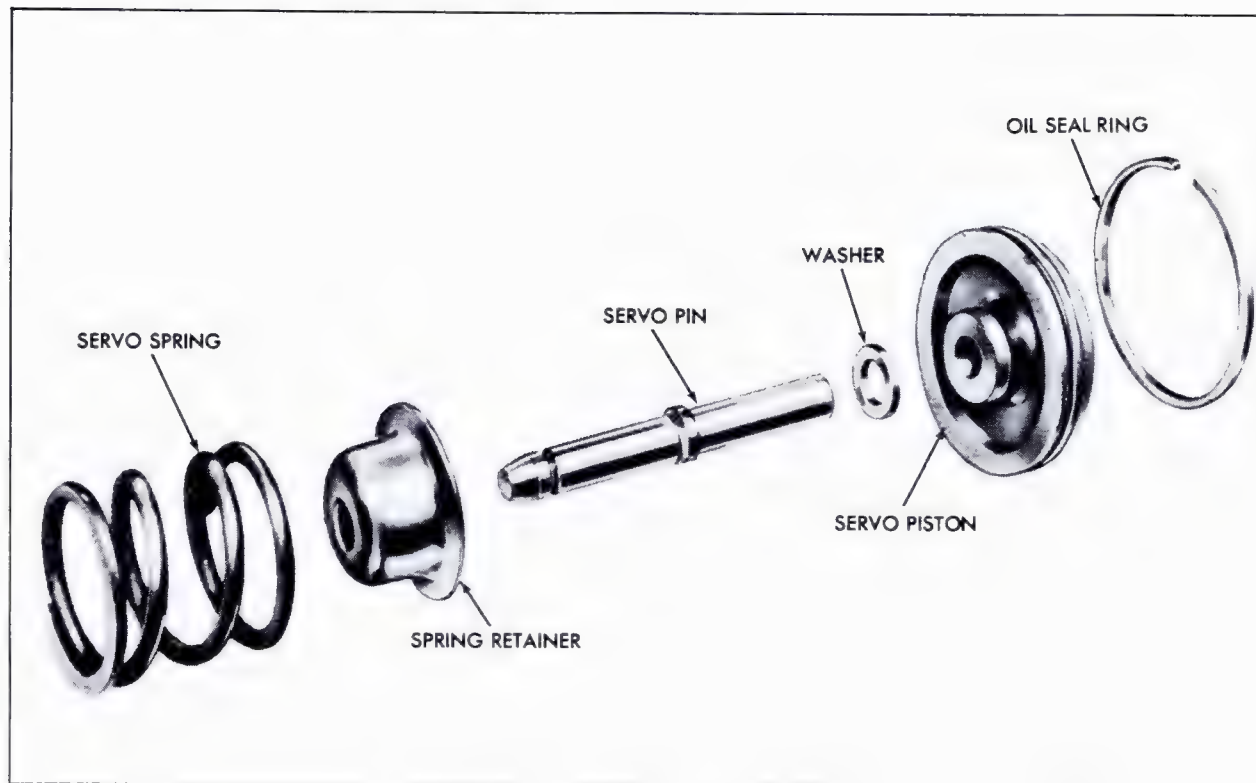

Fig. 7-68 Front Servo Disassembled
j. Front Servo Assembly (Fig. 7-68)